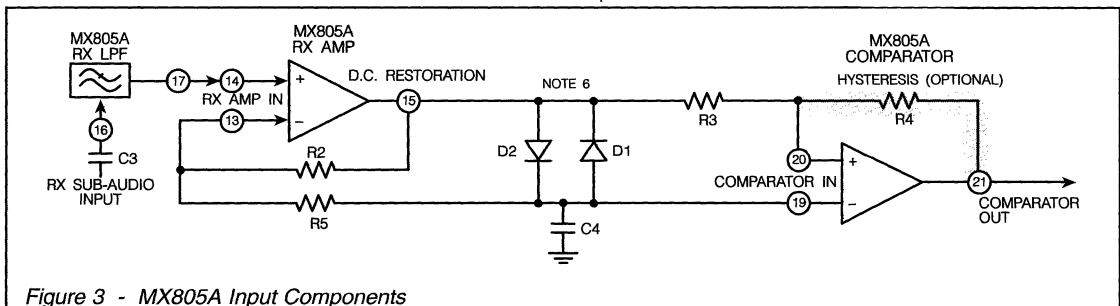

Figure 3 - MX805A Input Components
- Figures 3 and 4 illustrate alternative input component configurations.
Figure 3 shows an input configuration that is generally for use for CTCSS signal and NRZ data reception.
The output resistance (open loop) of the on-chip RX Amp is $\approx 6k\Omega$. In the configuration shown in Figure 3, the (RX Amp) RC time constant is therefore 90ms. If this period is too long for some systems, ie. those using half-duplex, short data burst, an external amplifier should be considered in place of the on-chip RX Amp.